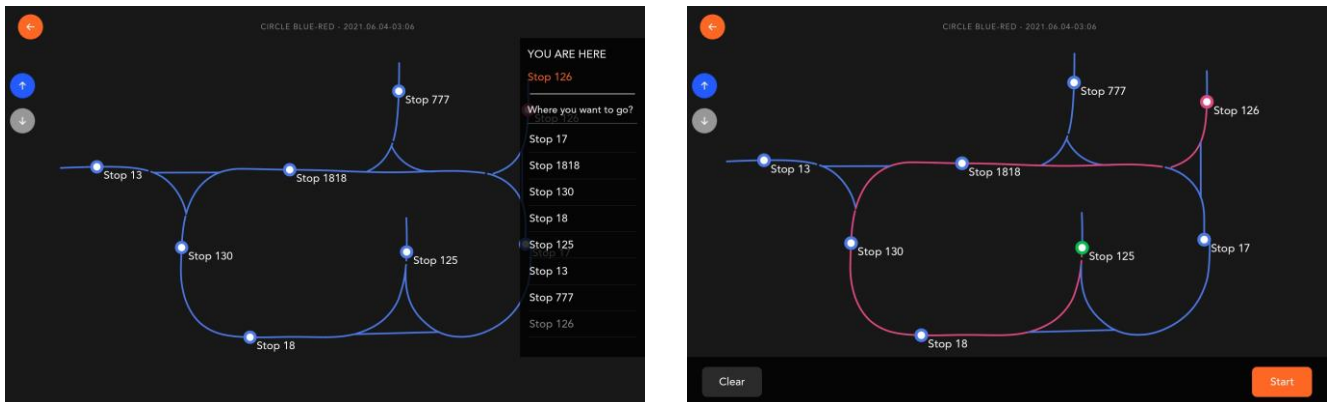

Figure 41 Shortest route for the eQart between selected stations.
- The map of the last example is shown “in Figure 41 Shortest route for the eQart between selected *stations*”.